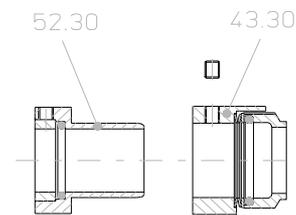

Fig. 5
10. Remove rotary element of the mechanical seal 43.30 from the shaft sleeve 52.30 (fig.5).